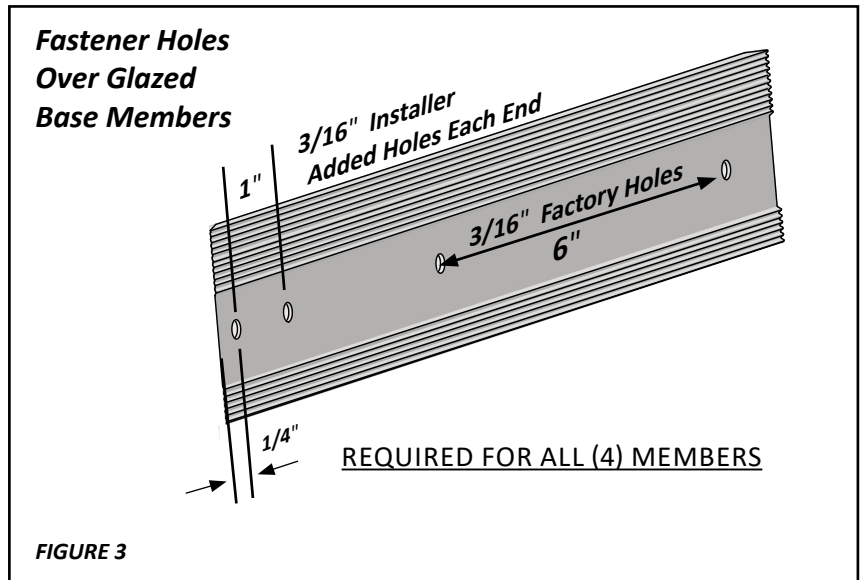

FIGURE 3
Once the (4) base extrusions are cut to length and have been dry-fitted to the opening, remove and inspect each component. The Gen II system requires a fastener be located at 1/4" and 1" from each end for maximum protection. Drill required holes if necessary. Remove all aluminum debris before applying sealant. **(Fig. 3)**